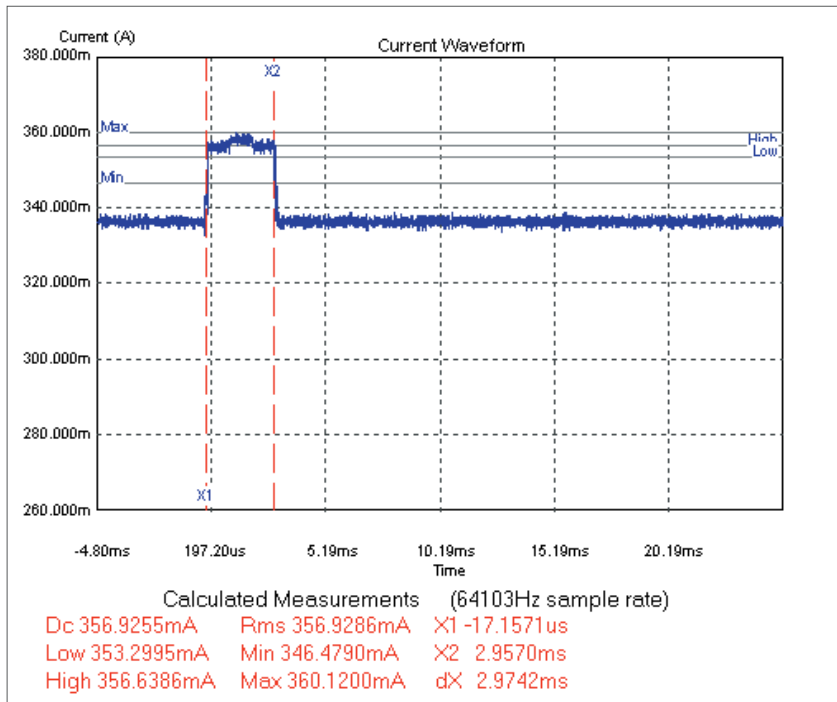

Figure 3. WLAN Card Transmit Beacon Current Drain Pulse
- An expanded view of a transmit pulse is shown in Figure 3. It is found that the transmit current level is 20 mA greater than the receive level. At 3 msec wide these beacon transmit pulses are contributing approximately only an additional 0.6 mA to the average current drain. In contrast to this idle activity, when data is being actively uploaded, the data payloads and resulting transmit pulse widths get correspondingly longer.